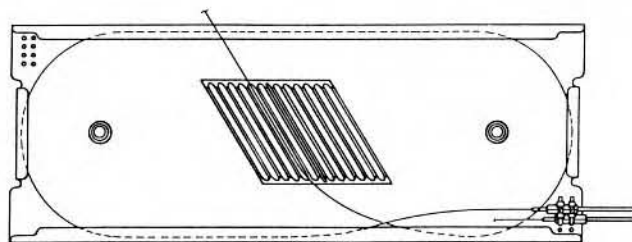

Figure 41
19.10 Select the fibers from the opposite direction of transmission and route them around the tray, under the retainer lip, until the fibers have made one complete loop in the tray. Lead the fibers into the splice storage block. Figure 41.